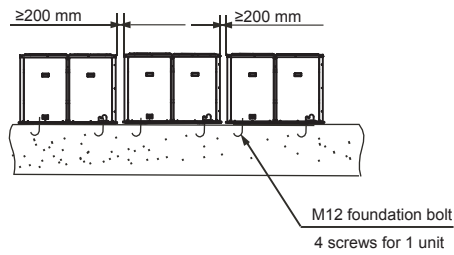

Fig.4-4
- As shown in Fig.4-4, leave an interval of 100mm between the outdoor units.